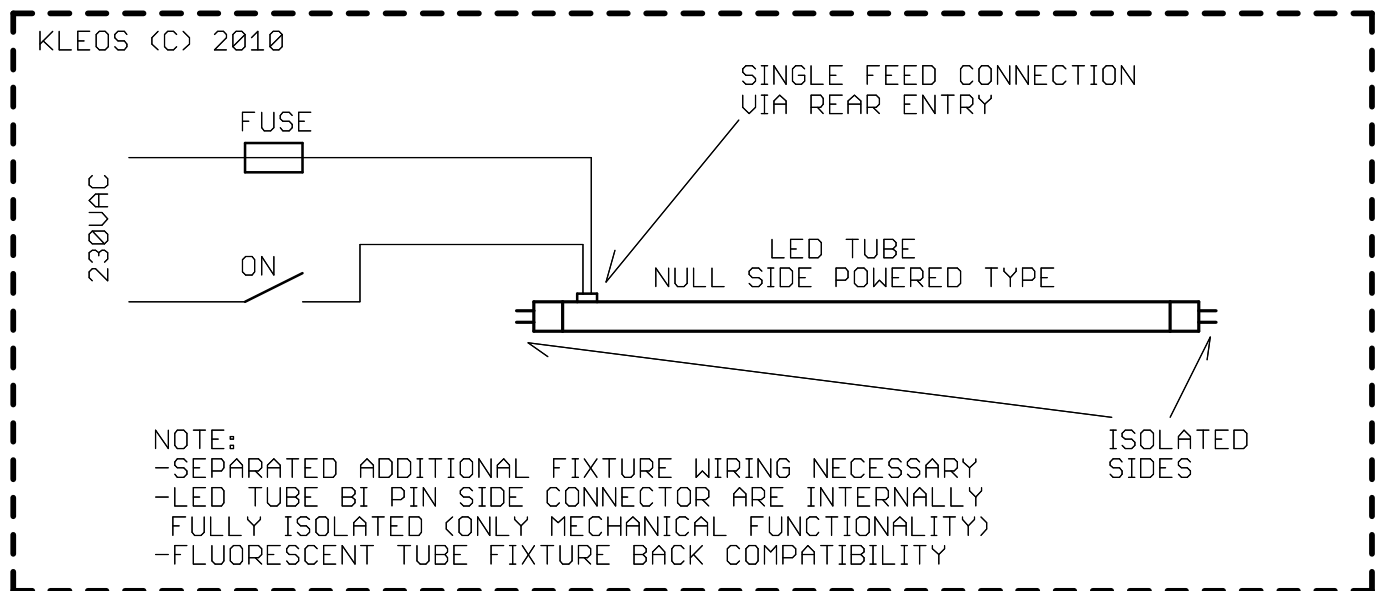

FIG. 4 - TYPICAL LED TUBE NULL SIDE POWERED FIXTURE ELECTRICAL CIRCUITRY
3) NULL SIDE POWERED TYPE K-LedTUBE (FIG.4)